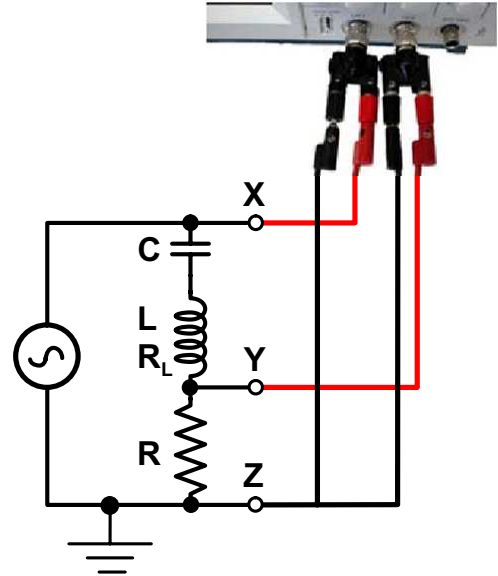

Figure 2: Wiring diagram.
We will measure pairs of values of V_0 and V_R at different frequencies, so as to be able to plot a resonance curve as in Figure 2. Note that, as you saw in Part IV, the generator output changes with frequency, so that both values have to be measured for each frequency. The resonance curve is a plot of I_0/V_0 vs. frequency. Tabulate your data using the column headings shown below. Peak-to-peak (p-p) values are recommended, since we will take a ratio. (Note that I_0 involves only the resistance of the resistor, not the whole circuit.)
3. Plot I_0/V_0 against frequency. Include the points from part 6. Draw a SMOOTH curve that comes CLOSE to your data points. (See Figure 2 for a typical resonance curve.) This type of resonance curve is characteristic of many physical systems from atoms to radio receivers.